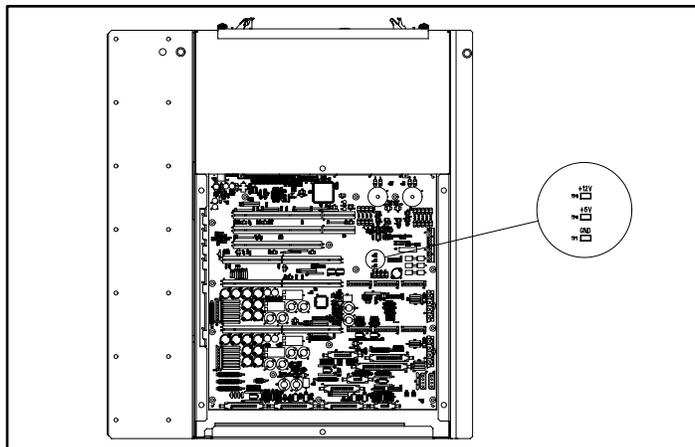

Figure 7: PCI Backplane
1. Using a multimeter, measure the resistance between (see Figure 7):
- ❶ Electronics bay
- ❷ Expansion cage
5. Measure the resistance between (see Figure 7):